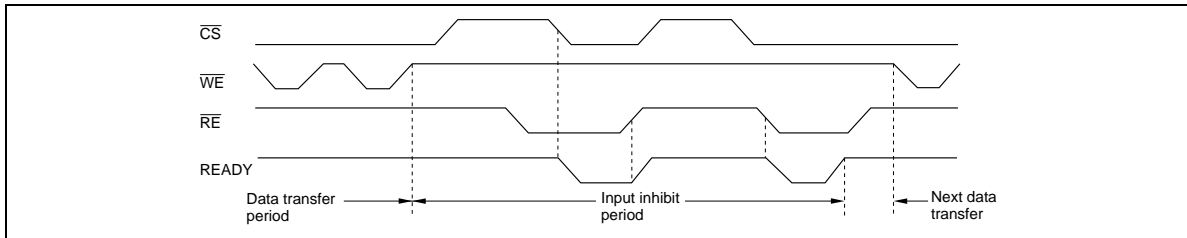

Figure 13 READY Output Timing (When It Is Made Available by \overline{CS} and \overline{RE})
- b. READY is mode available by $\overline{\text{CS}}$ and $\overline{\text{RE}}$ (Figure 13).